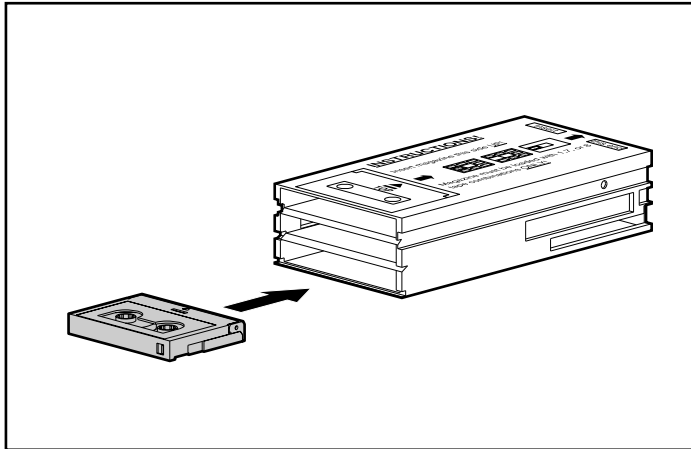

Figure 4-6. Inserting cassettes 3, 2, and 1 into the magazine (Slot 3)
1. Insert the cassettes into the magazine positions in the following order: 3, 2, and 1 (in slot 3). See Figure 4-6.